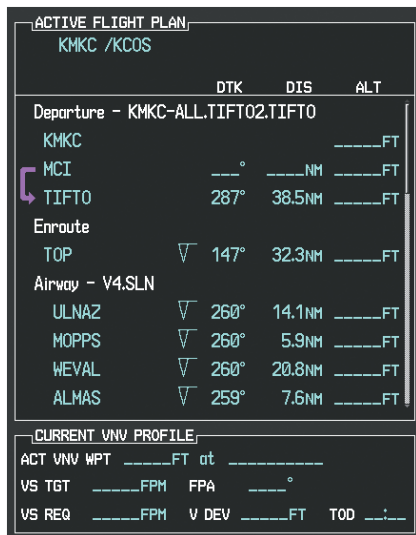

Figure 7-19 V4 is Loaded in the Flight Plan
- l) V4 is now loaded into the flight plan as shown in Figure 7-19.